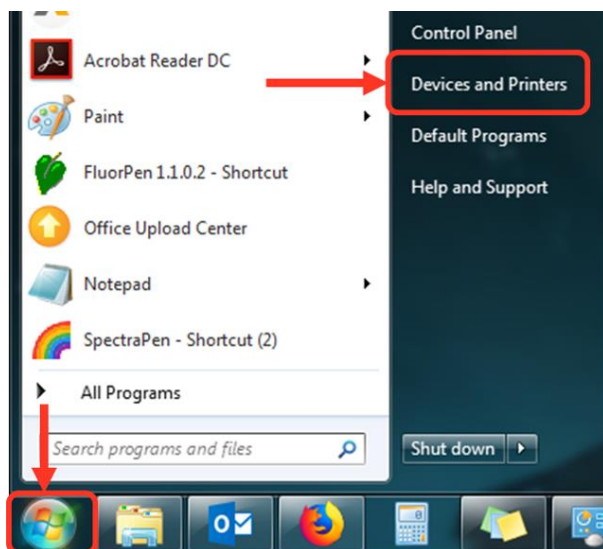

Fig. 5 Start Bluetooth Application.
- Select: **Start > Devices and Printers** (Fig. 5).